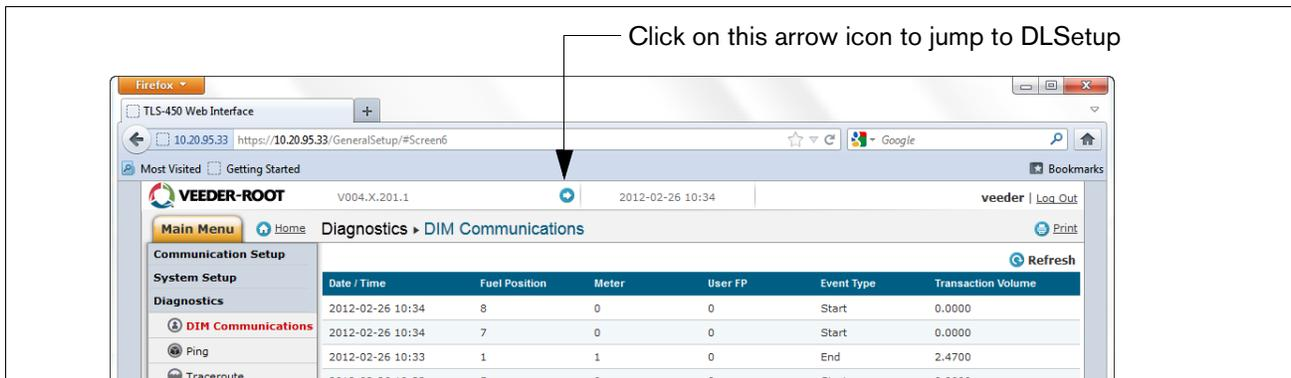

Figure B-13. Switching to DL Setup
- Click on arrow just to the left of the date to switch to DLSetup application (see Figure B-13).